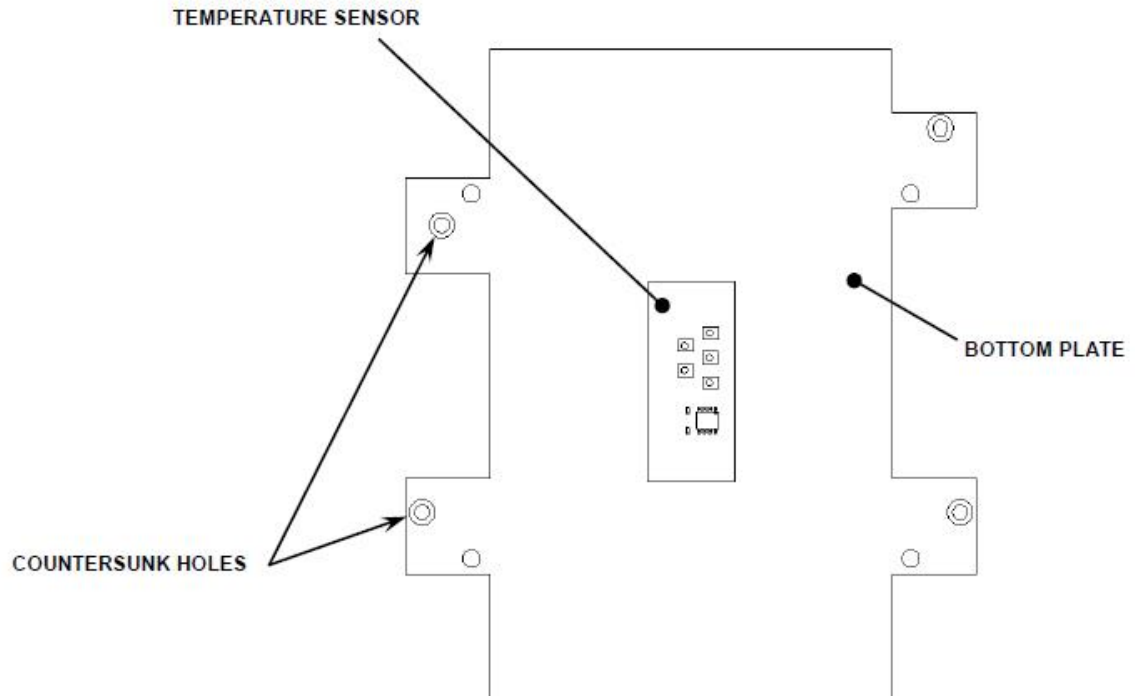

Figure I-8: Ambient Temperature sensor
The ambient temperature sensor is located on the bottom plate (Figure I-8).
3. Remove the protective backing from the new sensor and stick it to the face of the bottom plate with countersunk holes facing up as shown in Figure I-8. Center the sensor by eye in the orientation shown in the figure.